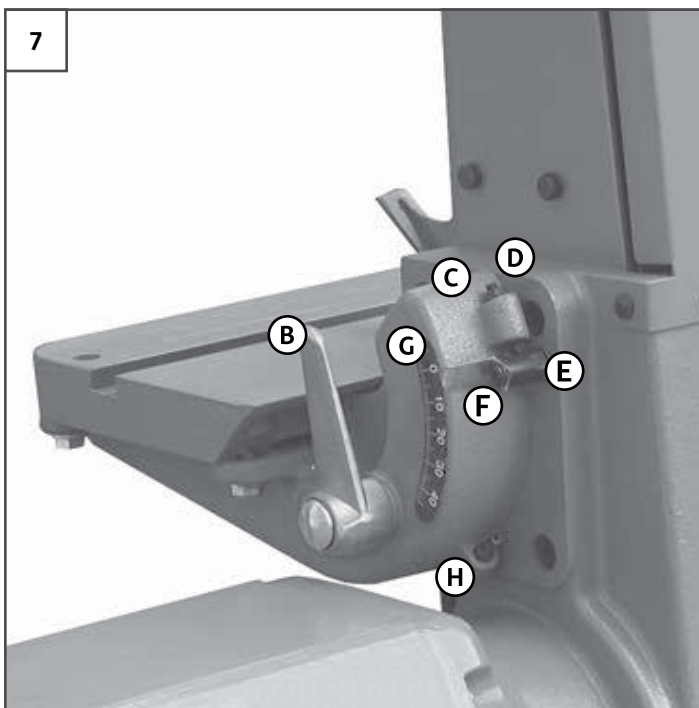

FIGURE 7: ADJUSTING BELT TABLE BEVEL STOPS
5. Loosen **LOCK NUT (C)** using a 8 mm wrench. See Figure 7.
6. Adjust **SET SCREW (D)** using a 2.5 mm Allen key until the screw sits on the **STOP (E)**.
7. Re-tighten **LOCK NUT (C)**.